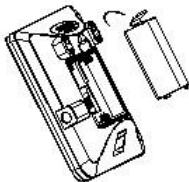

Fig 2-8 Open battery cover
- 1) Open the battery cover of Solar Eye. Fig 2-8 as below